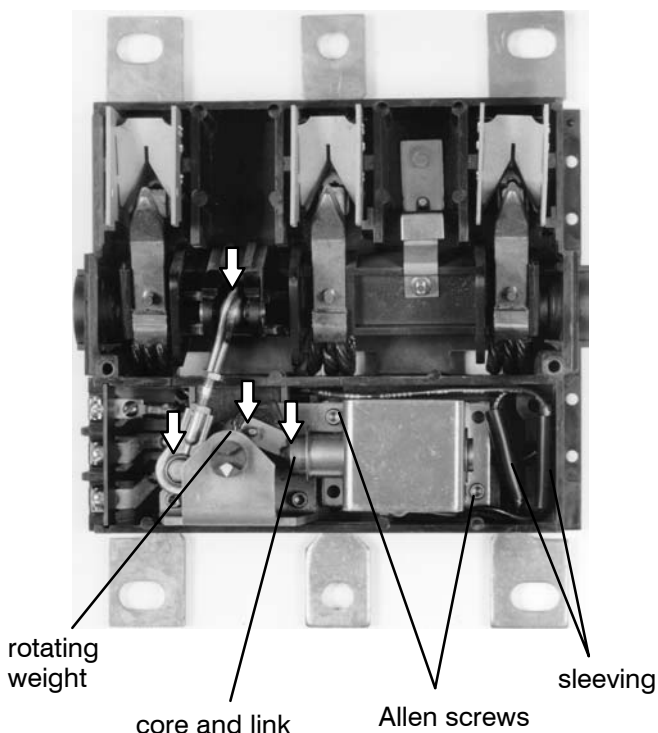

Figure 4. Coil assembly mounting and lubrication points (white arrows).
The solenoid operator coil is held in a frame and secured by the core tube. The coil assembly is mounted in the base with two screws. See Figure 4.
Under normal service, relubrication is not needed. However, when parts replacement or repair requires removal of lubrication, factory lubrication should be duplicated. Do not use oil. Only use ASCO Lubrication Kit 625549. Lubrication points are: core and link, inside the core tube, operator spring, rotating weight pin, and drive arm pivot joints. If the operator coil is replaced, lubricate the new spring and inside of the new core tube. See the white arrows in Figure 4.
6. Insert the existing stub core into the new core tube from the coil kit. Slide the new core spring into the tube and push the core tube assembly through the frame. Use pliers to snap the new retaining ring into the core tube assembly groove. See Figures 4 and 5.
8. Reinstall the new coil assembly into the switch as follows: Insert the core into the spring and compress the spring into the coil assembly until it can be positioned over the two mounting holes. Use a 9/64, allen wrench clockwise to secure the coil assembly with two screws. Be sure the core's link remains hooked onto the pin on the rotating weight. Tighten the screws to 24–28 inch-pounds. See Figure 4.